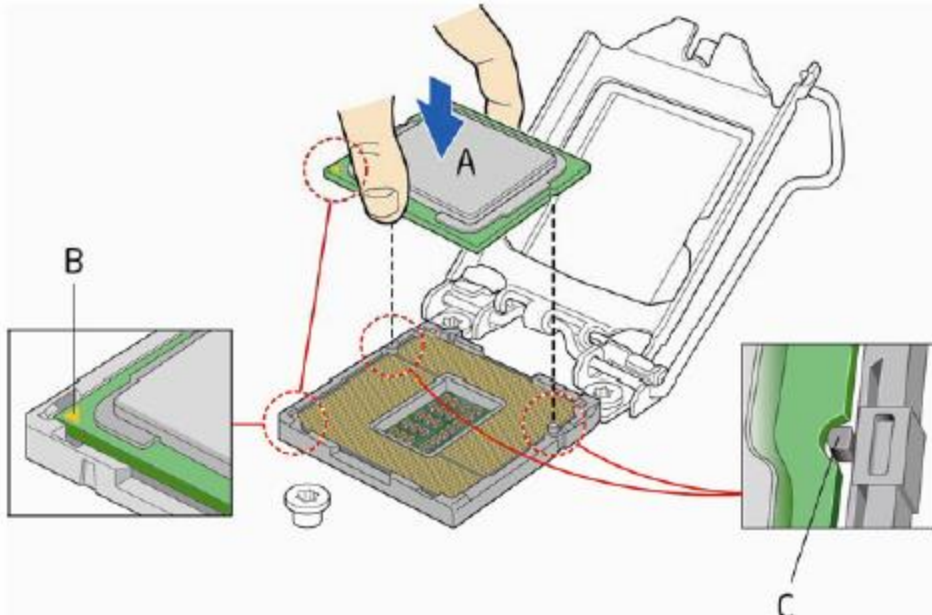

*Figure 6: Remove the processor from the protective cover*
3. Remove the processor from its protective cover. Hold the processor only at the edges, being careful not to touch the bottom of the processor (see Figure 6).